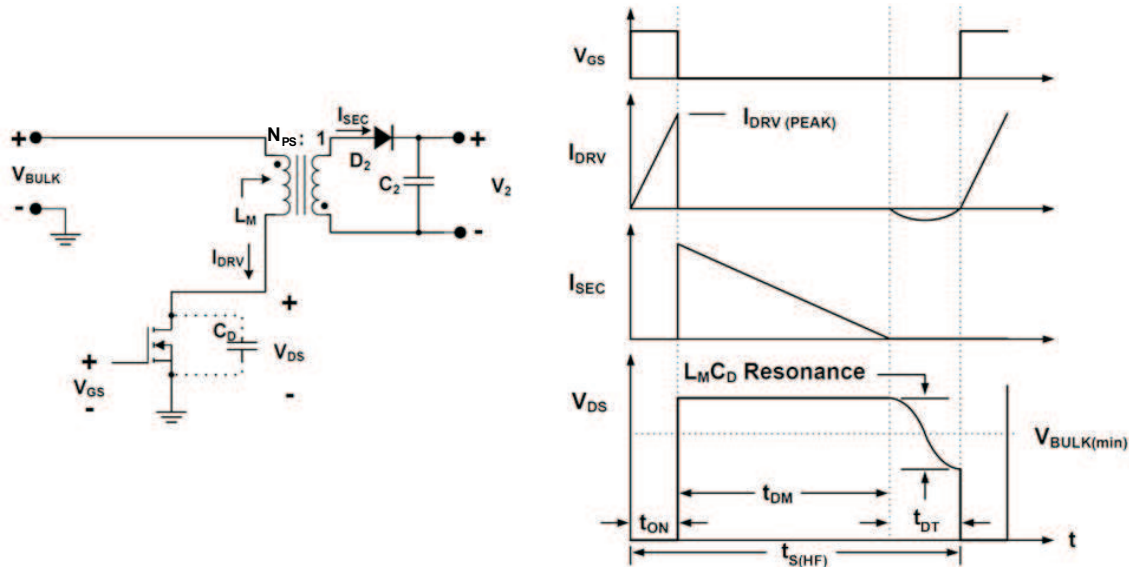

Figure 20. Basic Flyback Converter and Waveforms at Peak Load and Minimum V_{BULK} Voltage
To begin a power supply design, the power supply designer needs to know the peak power to be delivered by the converter, the input voltage range, the output voltage, and an estimate of the maximum allowable bulk voltage ripple. Select the maximum allowable stress voltage for the external power MOSFET. The stress voltage determines the reflected secondary voltage that resets the flyback transformer and the turn ratio between primary and secondary. A simplified diagram of the converter and its waveforms are shown in Figure 20.
The minimum switching period is when the converter is operating in the Frequency Modulation (FM) mode, referred to as $t_{S(HF)}$. This switching period must equal the sum of the switching intervals at minimum input voltage, maximum load, as shown in Figure 20 and described in Equation 1. The switching intervals are t_{ON} , the conduction time of the MOSFET; t_{DM} the demagnetization time of the transformer and t_{DT} , the duration of the deadtime, equal to half of the resonant cycle, after the transformer is de-energized.